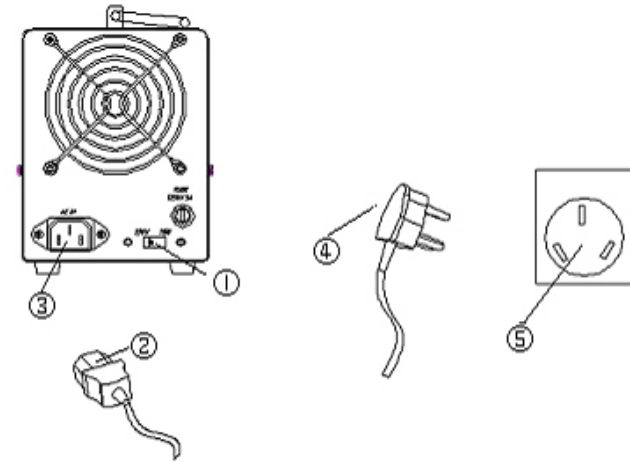

Fig.2.4
1. Check the input voltage and choose the proper one by voltage selector switch ① on the rear panel of the power supplier. (Fig.2.4);
4. Connect the power cord plug ② to the AC receptacle ③ on the rear panel of the power supplier.(2.4),then insert the power cord plug ④ into the wall outlet ⑤.(Fig.2.4);